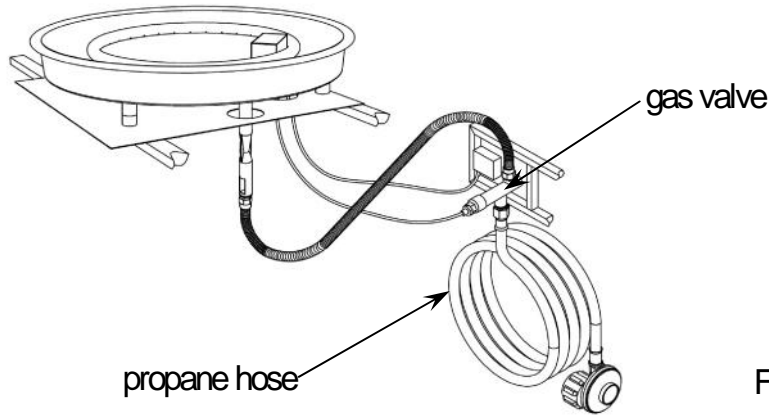

Figure 6
1. Disconnect the propane hose from the gas valve, see Figure 6.